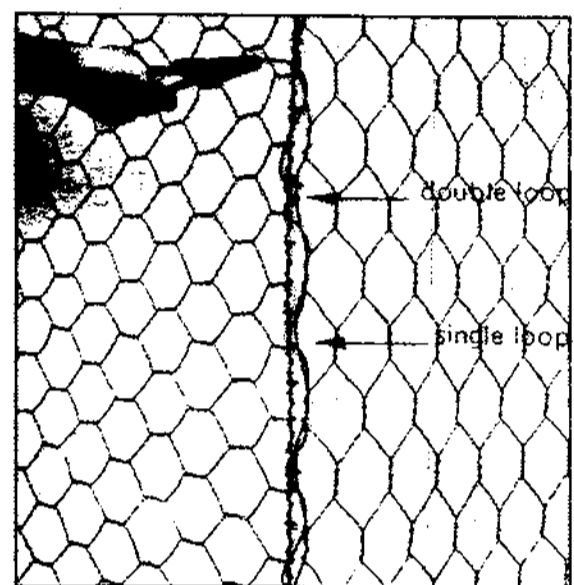

Fig. No. 2
The lacing procedure is as follows: cut a length of lacing wire approximately 1 1/2 times the distance to be laced but not exceeding 5 feet. Secure the wire terminal at the corner by looping and twisting, then proceed lacing with single and double loops at approximately five (5) inch intervals (See Fig. No. 2). Securely fasten the other lacing wire terminal.